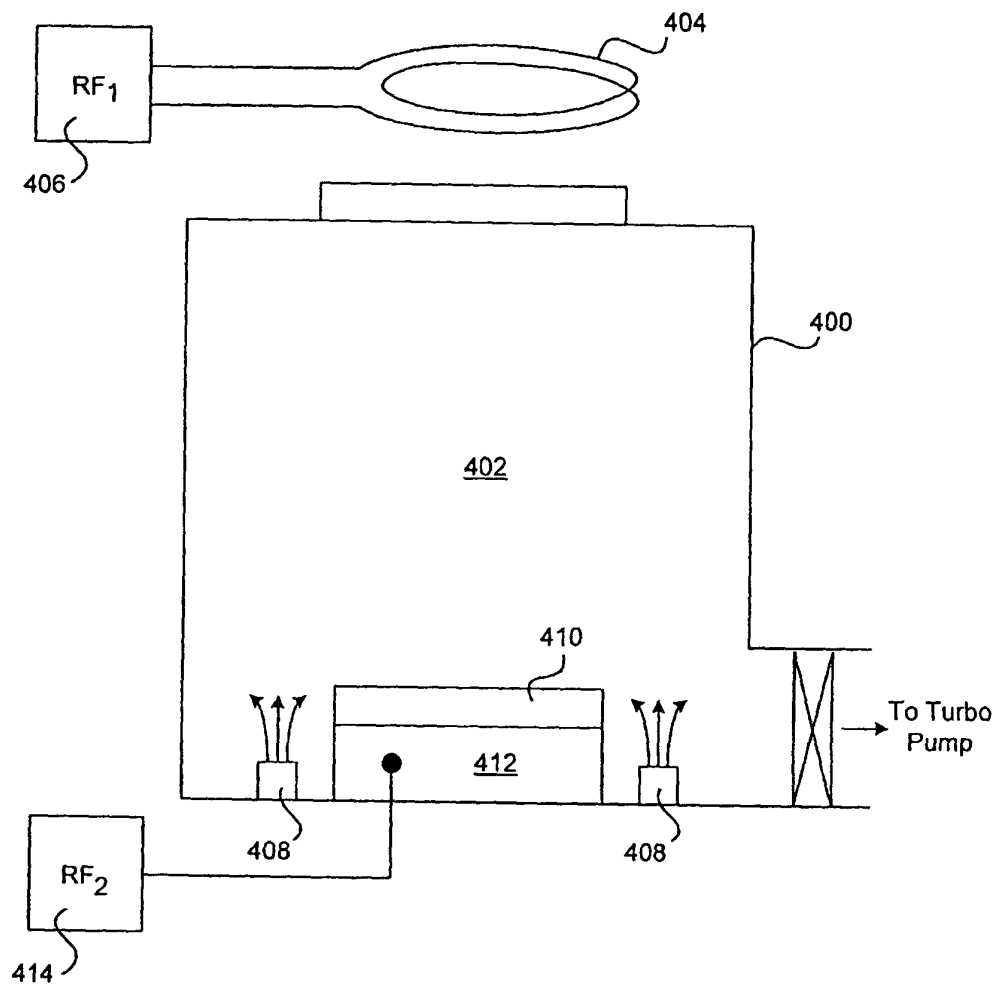

FIGURE 5
FIG. 5 is a schematic diagram of a system for processing a sample in a vacuum chamber. The system includes a sample holder (404) mounted on a support (406) above a vacuum chamber (400). The chamber (400) contains a sample (402) and a processing unit (410) with a control unit (412). The processing unit (410) is connected to a radio frequency (RF) source (RF2) via a line (414). The chamber (400) is evacuated by a turbo pump (To Turbo Pump) through a valve (408).